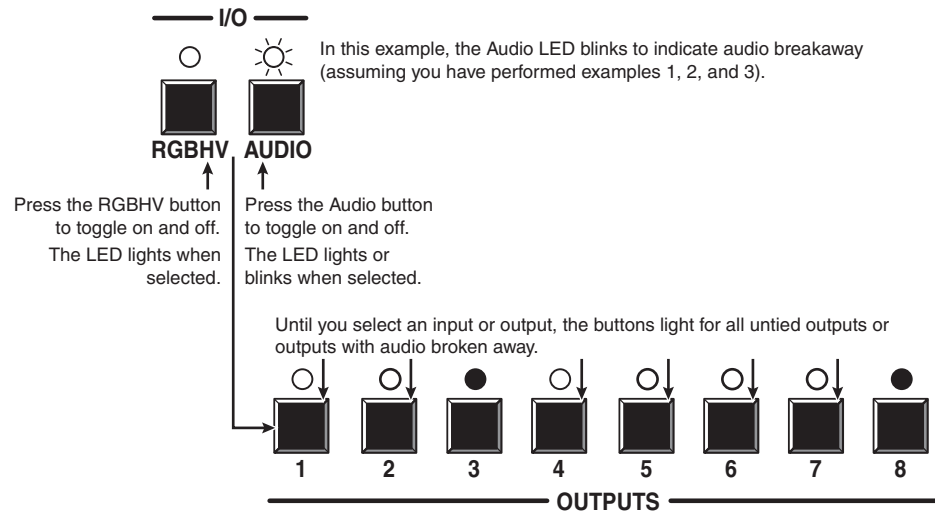

Figure 3-22 — Select RGBHV and audio
- To select both video and audio for viewing, if necessary, press and release the RGBHV button and the Audio button (figure 3-22).